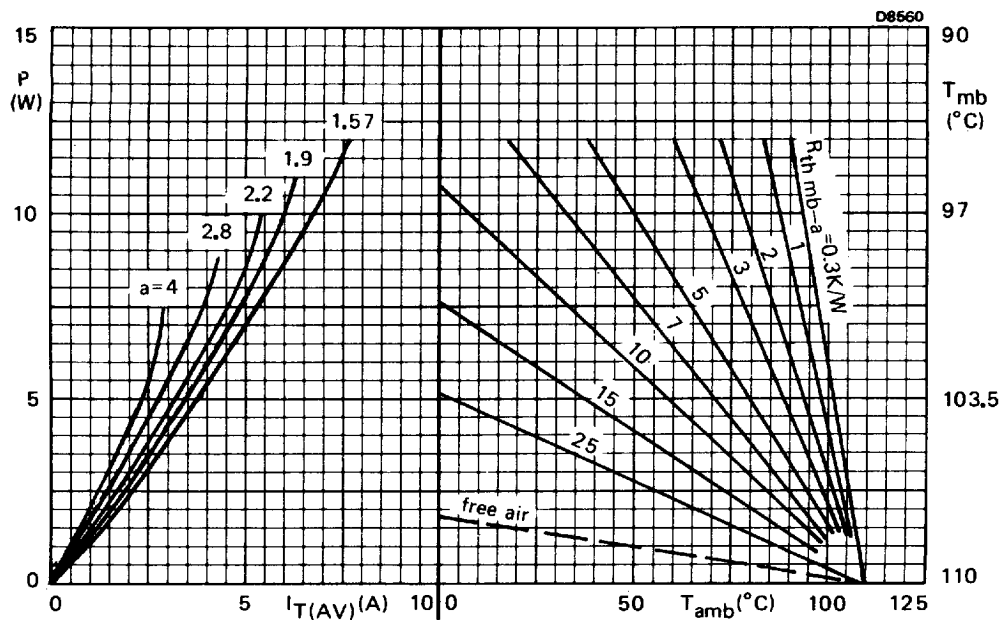

Fig.4 The right-hand part shows the interrelationship between the power (derived from the left-hand part) and the maximum permissible temperatures.
a. The method of using Fig.4 is as follows: